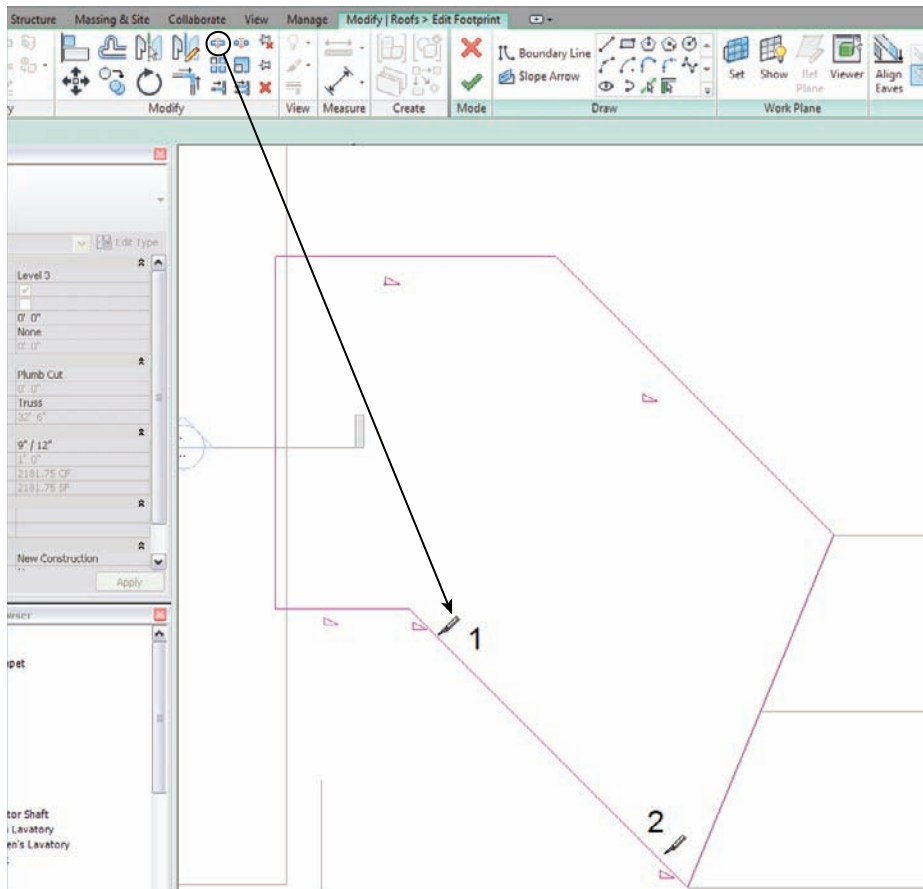

FIGURE 7.60 Splitting the line into three pieces
1. On the Modify | Roofs > Edit Footprint tab, select the Split Element button, as shown in Figure 7.60.
3. Pick two points on the roof edge, as shown in Figure 7.60.